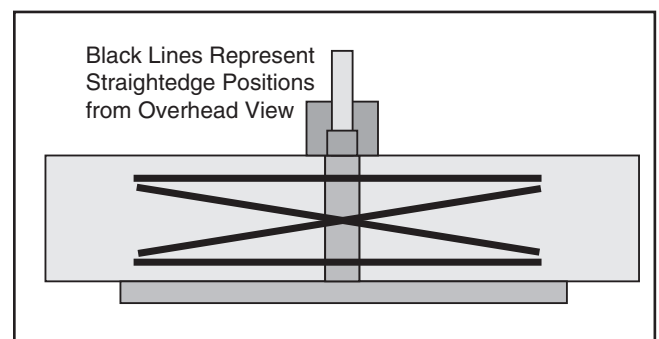

Figure 45. Example of infeed and outfeed table height set evenly.
- Place straightedge in the positions shown in **Figure 45**. In each position, straightedge should sit flat against both outfeed table and infeed table.